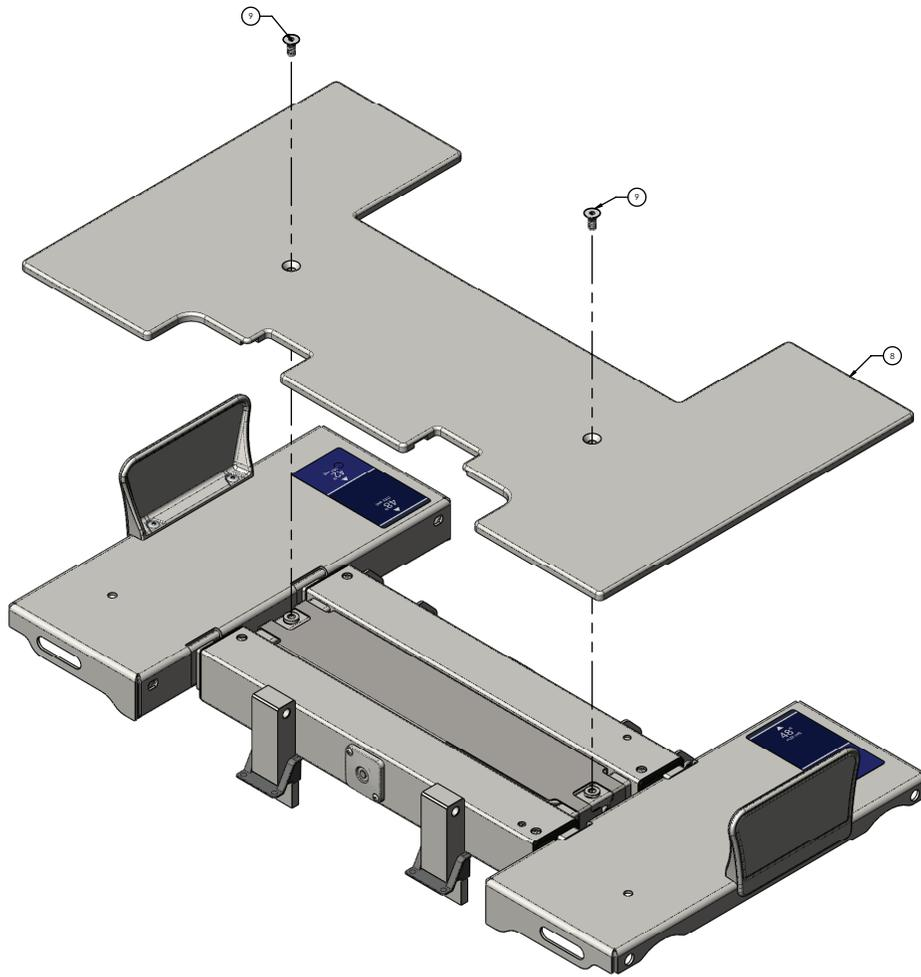

Figure 18 – DPM board replacement, mid
9. Working from the middle right, use a T40 Torx driver to remove and save the two screws (9) that secure the seat deck cover (8) to the seat frame (Figure 18). Remove and save the seat deck cover.